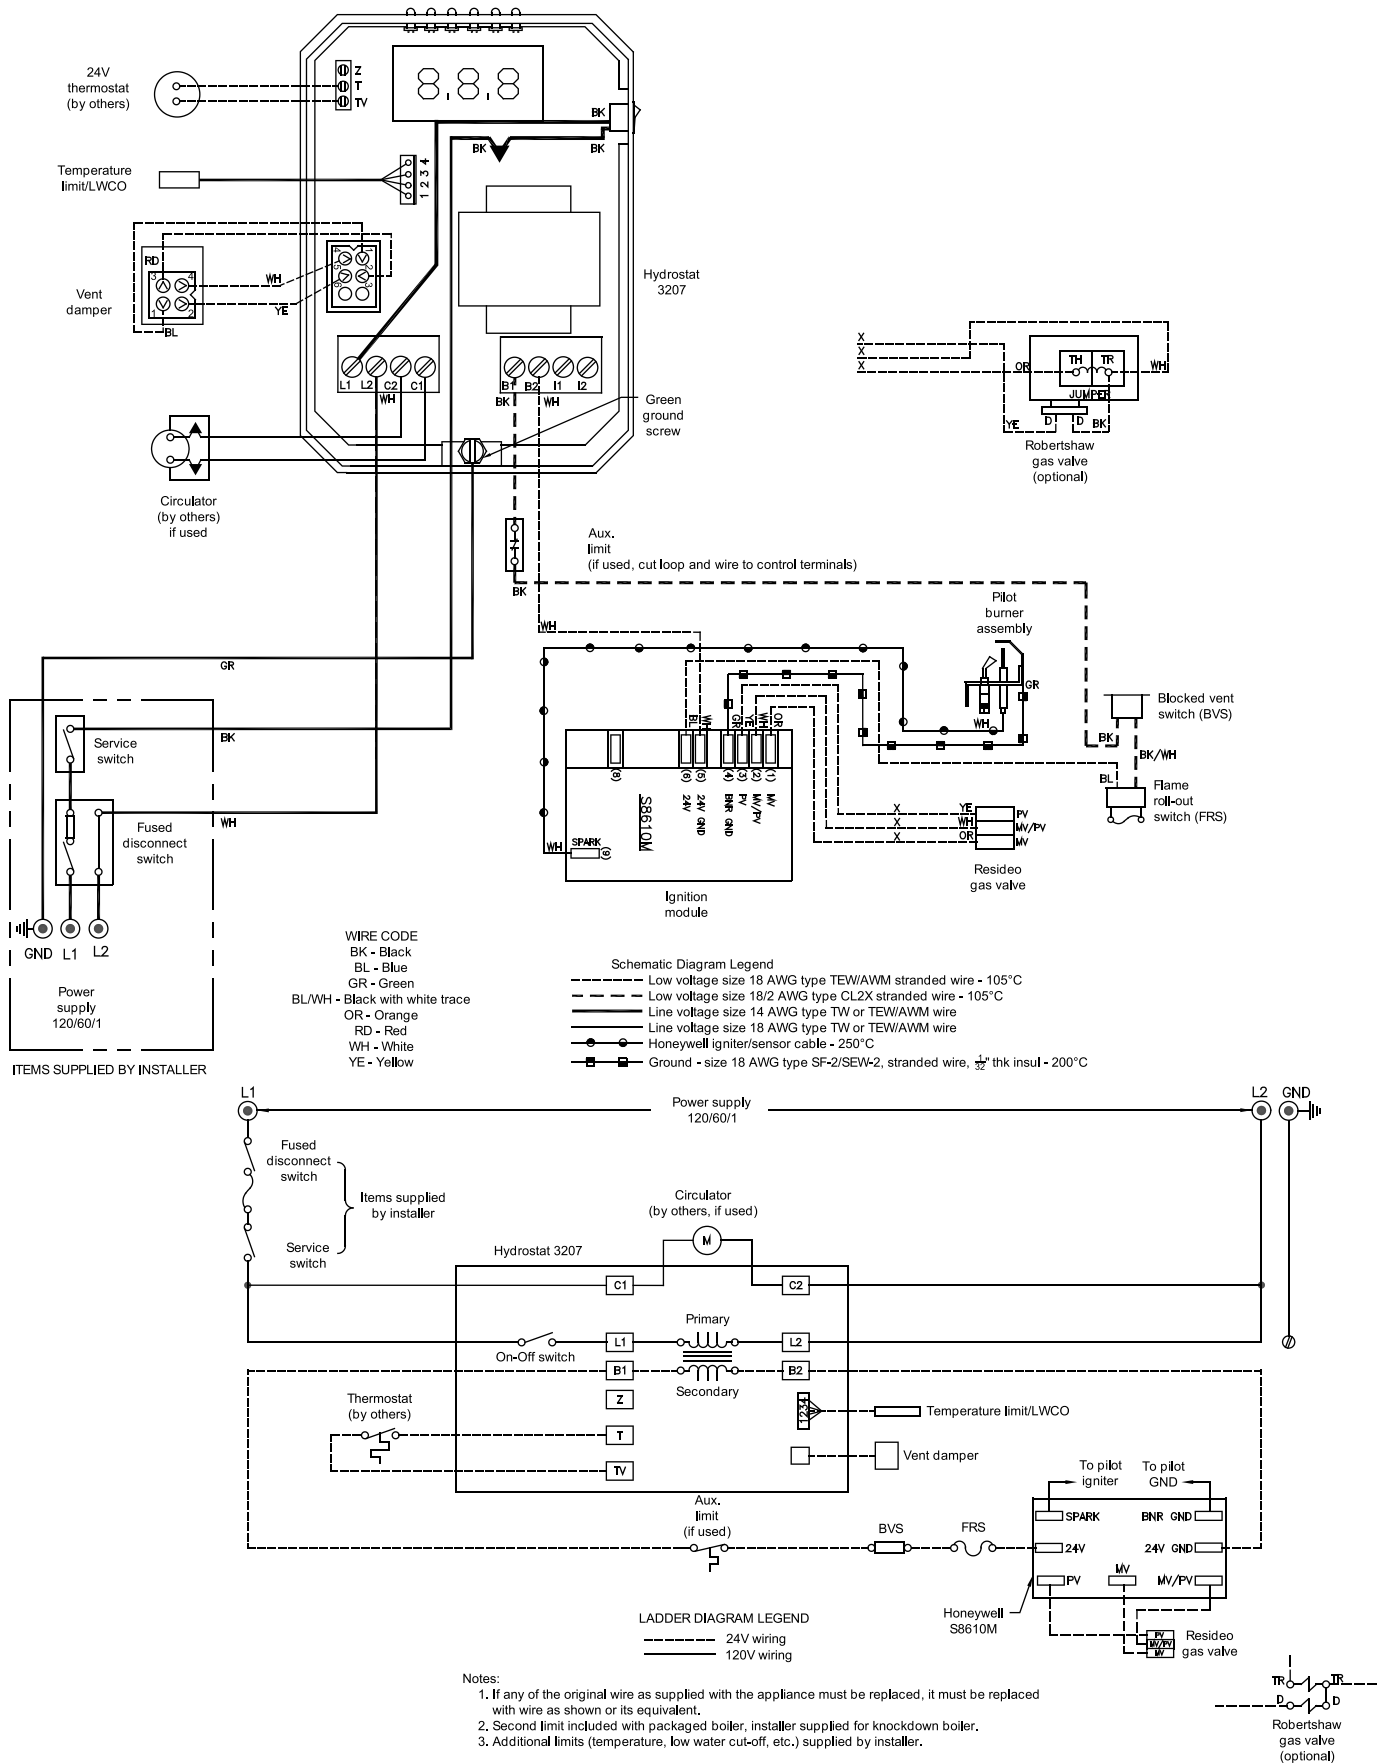

Figure 6-1: Wiring Diagram, Honeywell EI
1. Knockdown boilers only. Locate wiring harnesses in Combination Boiler Parts and Control Carton. Refer to Figure 6-1 and connect wiring as shown.
F. Vent Damper Sequence of Operation. See Figure 6-1 for schematic wiring diagram.
G. Sequence of Operation and Wiring. Refer to next page for Sequence of Operation and Figure 6-1 for wiring.